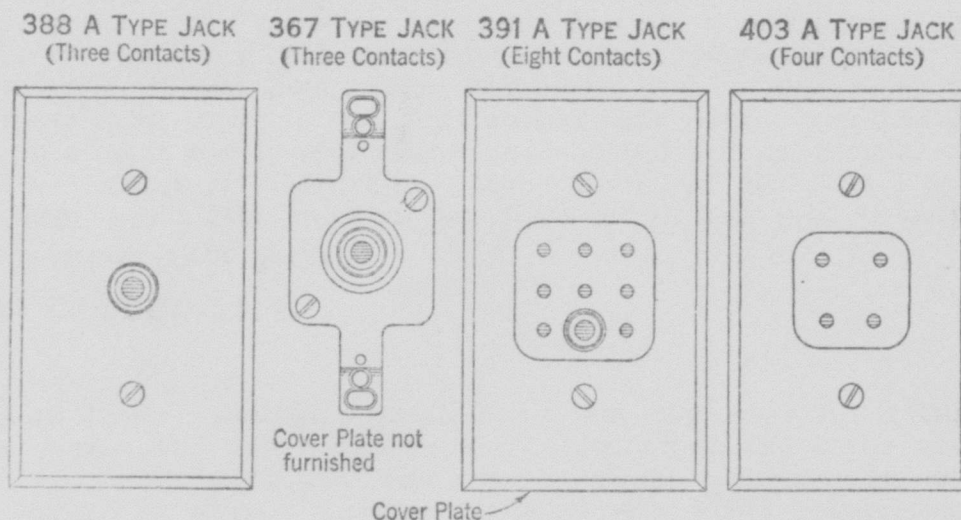

Fig. 1
2.02 Flush type jacks of the types referred to herein are shown in Fig. 1.